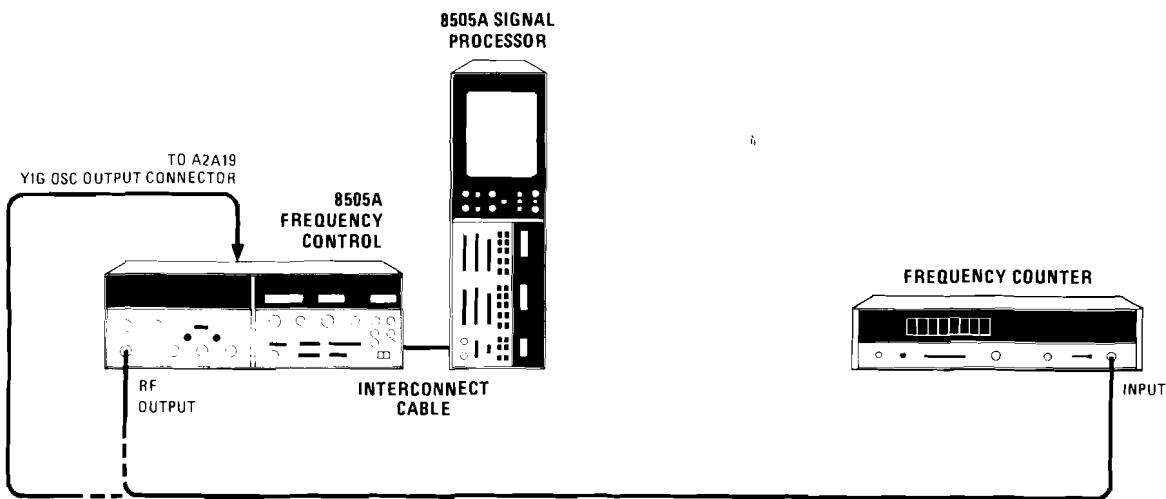

Figure A5-13. A2A11 Main Driver Test Setup
- b. Connect equipment as shown in Figure A5-13. Connect counter to 8505A RF Output Connector.